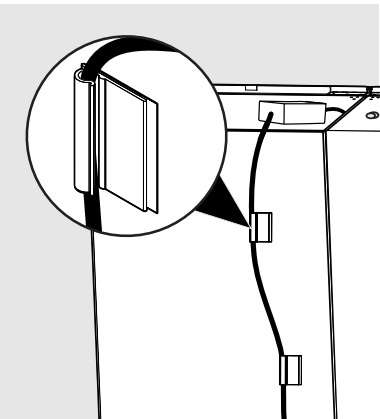

Fig. 6
10. Use the clips provided to hold the excess power cords to the back of the units such that all wires are away from the floor (Fig. 6).